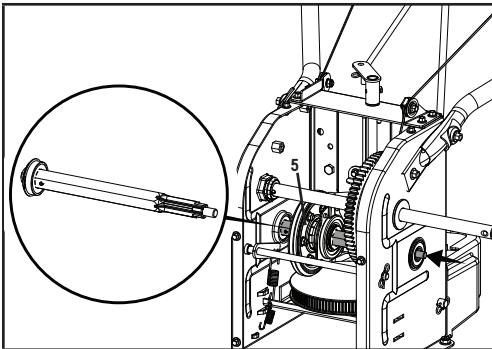

Figure 50
- Carefully position the hex shaft downward and to the left before carefully sliding the friction disc assembly (5) off the shaft (Fig. 50).